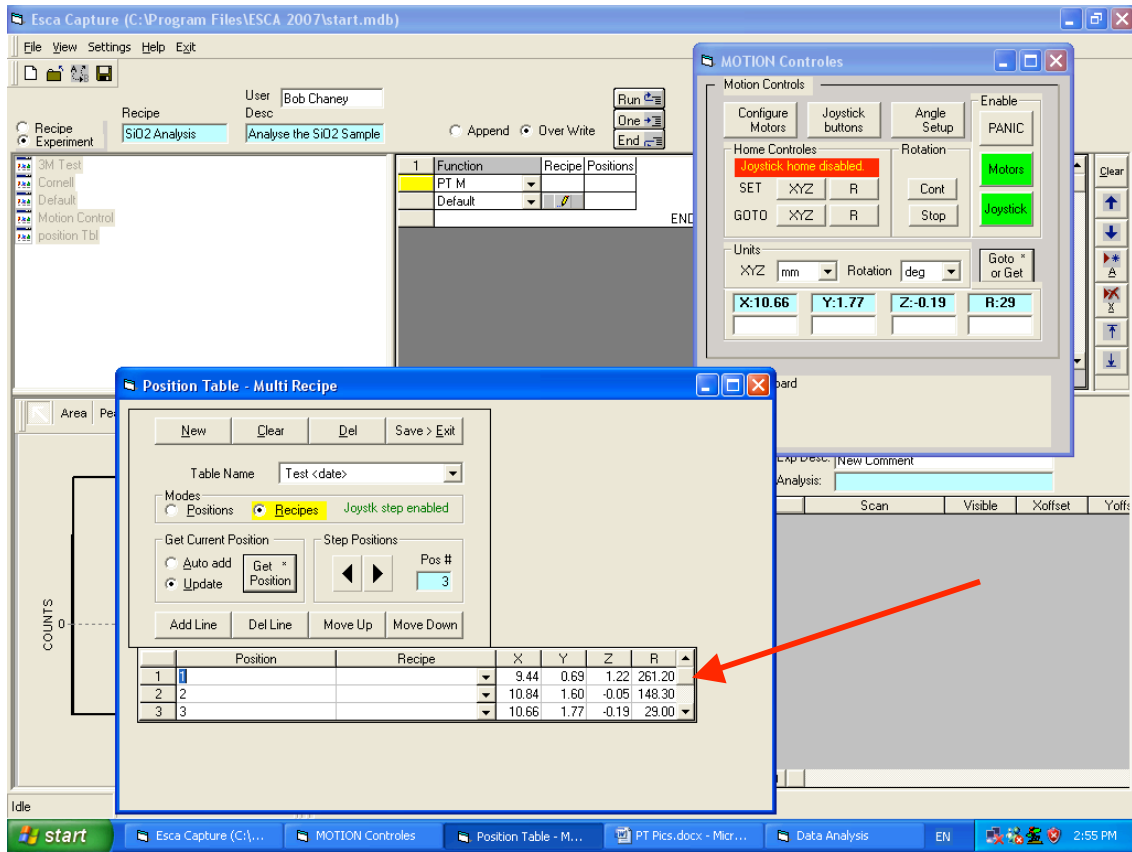

Figure 10 Capture each of the sample required X, Y, Z, R locations into the position table.
- 2.9 Repeat 2.7 and 2.8 for each sample location to be analyzed (Fig. 10).